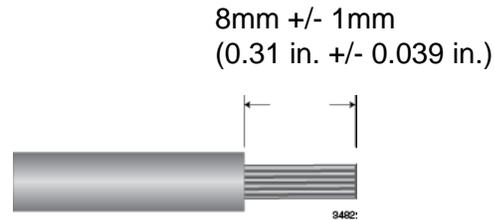

Figure 55. Stripped Wire
- With a 14-gauge wire-stripping tool, strip the three wires in the tray cable coming from the DC input power source to $8\text{mm} \pm 1\text{mm}$ ($0.31\text{ in.} \pm 0.039\text{ in.}$), as shown in Figure 55 on page 113.